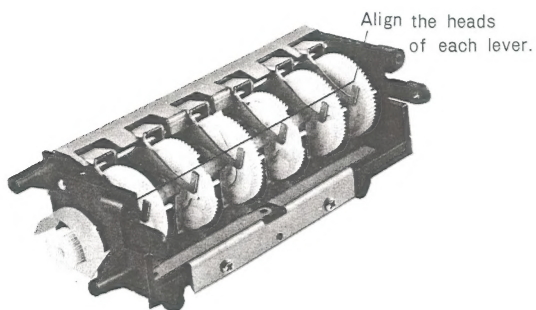

Fig. 17
- 2) Rotate each gear to the right and align the levers (pushbutton) to the same position. (See figure 17)